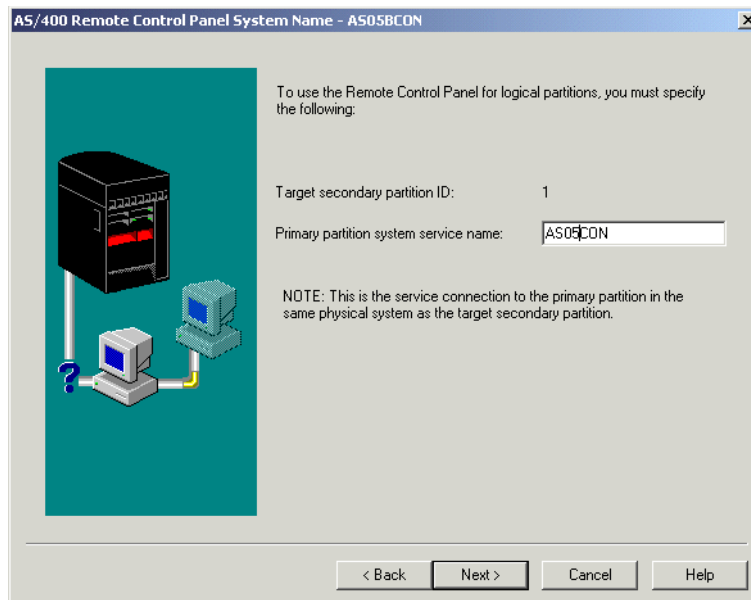

Figure 7-40 AS/400 Remote Control Panel System Name display (secondary)
10. On the AS/400 Remote Control Panel System Name display (Figure 7-40), enter the Primary partition system service name. This is the name that was given to the primary's LAN console IOA, which is AS05CON in this example. Click **Next** to continue.